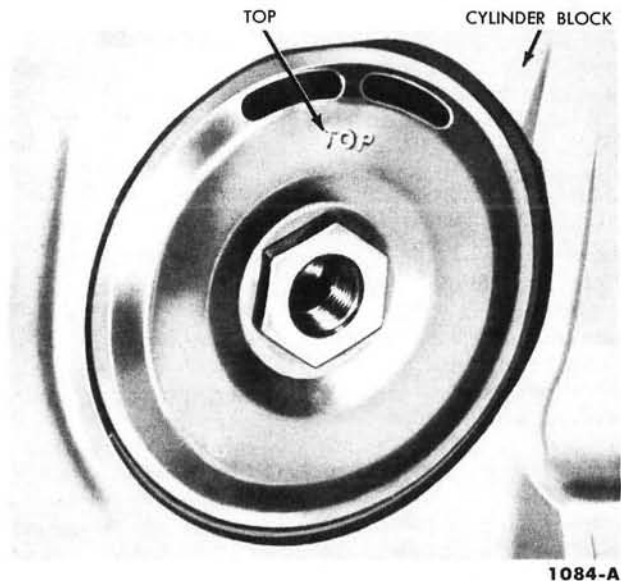

FIG. 50—Anti-Drain Back Diaphragm Position
1. Make sure the two elongated holes in the oil filter anti-drain back diaphragm are in the up position (Fig. 50).